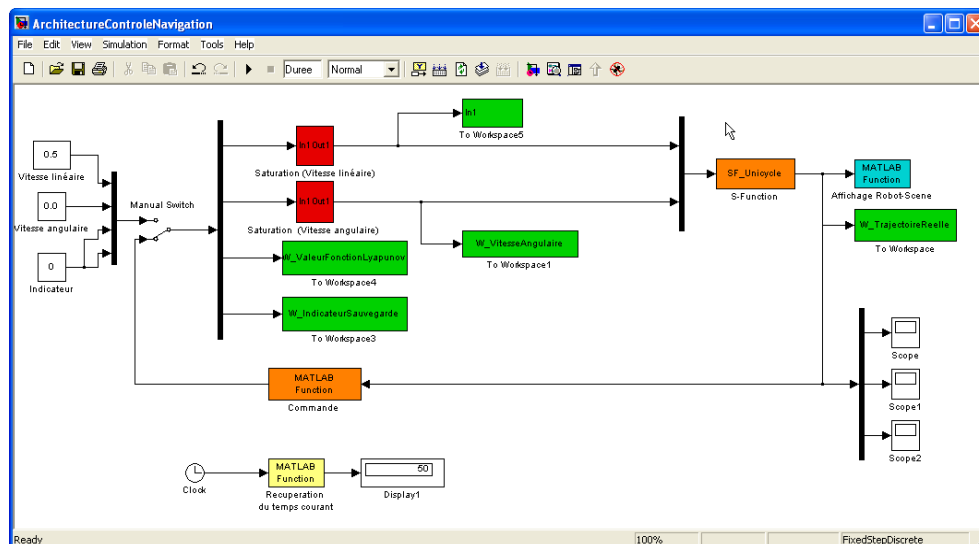

Fig. 2 Simulink scheme used for simulations
- In section III.B of article [1], the kinematic model of a fixed-point  $P_t$  with respect to a unicycle-type mobile robot is given by equation (1). Show that this model is none other than the generalization of the kinematic model of a unicycle given in the course.
- The kinematic model of the mobile robot is implemented in the *SF\_Unicycle.m* function. Look carefully at all the MATLAB / Simulink programs constituting the provided mini-software, specifically *ProgrammePrincipal.m*, *CoordinationControleurs.m*, and the Simulink *ArchitectureControleNavigation.mdl* file (cf. Fig. 2). Write in algorithmic language (in pseudocode) the different steps involved in controlling the mobile robot.